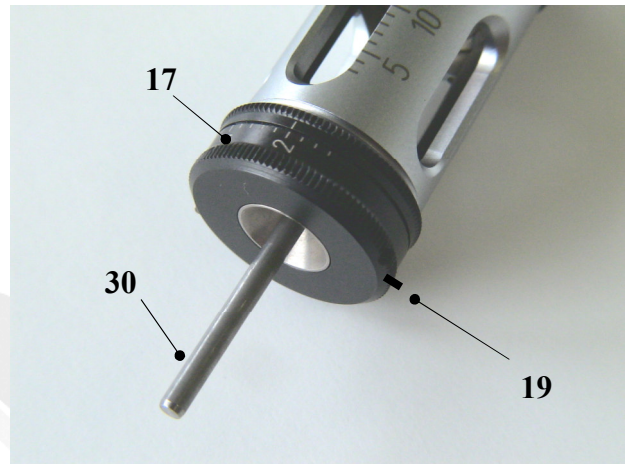

Fig. 21
- By rotating the centering scale **(17)**, fully open the centering jaws **(25)** and insert the calibrating pin **(30)**. Then by rotating the centering scale **(17)** close the centering jaws as far as the calibrating pin **(30)** Fig. 21.